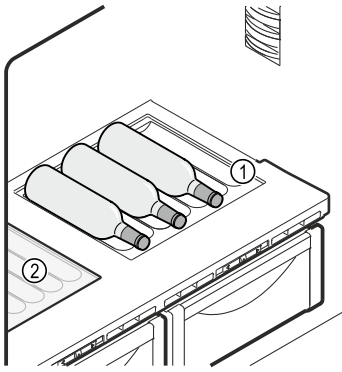

Fig. 162 Example illustration
- Insert the glass shelf Fig. 162 (2) under the variable bottle rack.